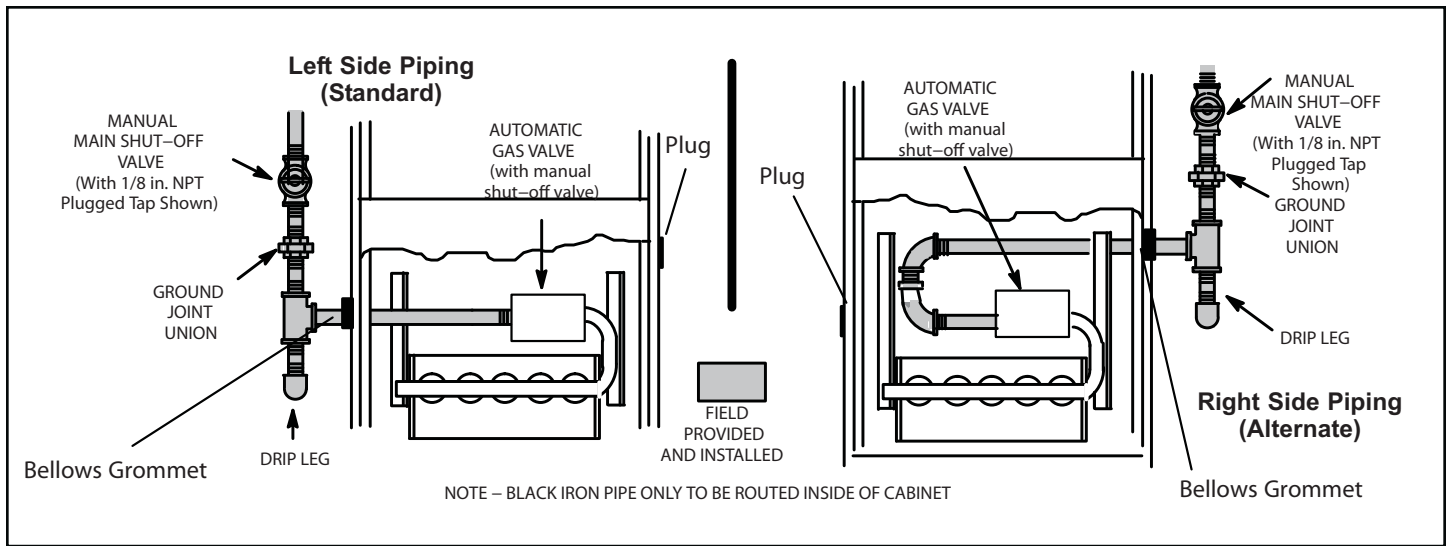

Figure 47.
1. Gas piping may be routed into the unit through either the left or right hand side. Supply piping enters into the gas valve from the side of the valve as shown in Figure 47. Move bellows grommet to side of the cabinet which the gas line enters. Ensure opposite gas line entrance is plugged with supplied plug.
3. Gas piping must not run in or through air ducts, clothes chutes, chimneys or gas vents, dumb waiters or elevator shafts. Center gas line through piping hole. Gas line should not touch side of unit. See Figure 47.